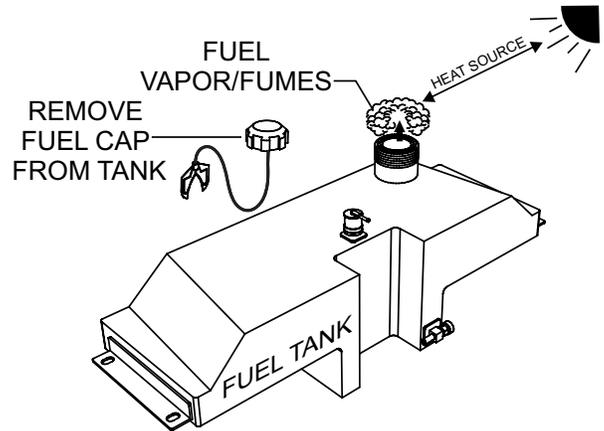

Figure 8. Drying The Fuel Tank
6. With the fuel cap removed (Figure 8), place the fuel tank outside in the upright position with the fuel filler neck facing upwards and allow the fuel tank to dry. This may take 30-45 minutes.